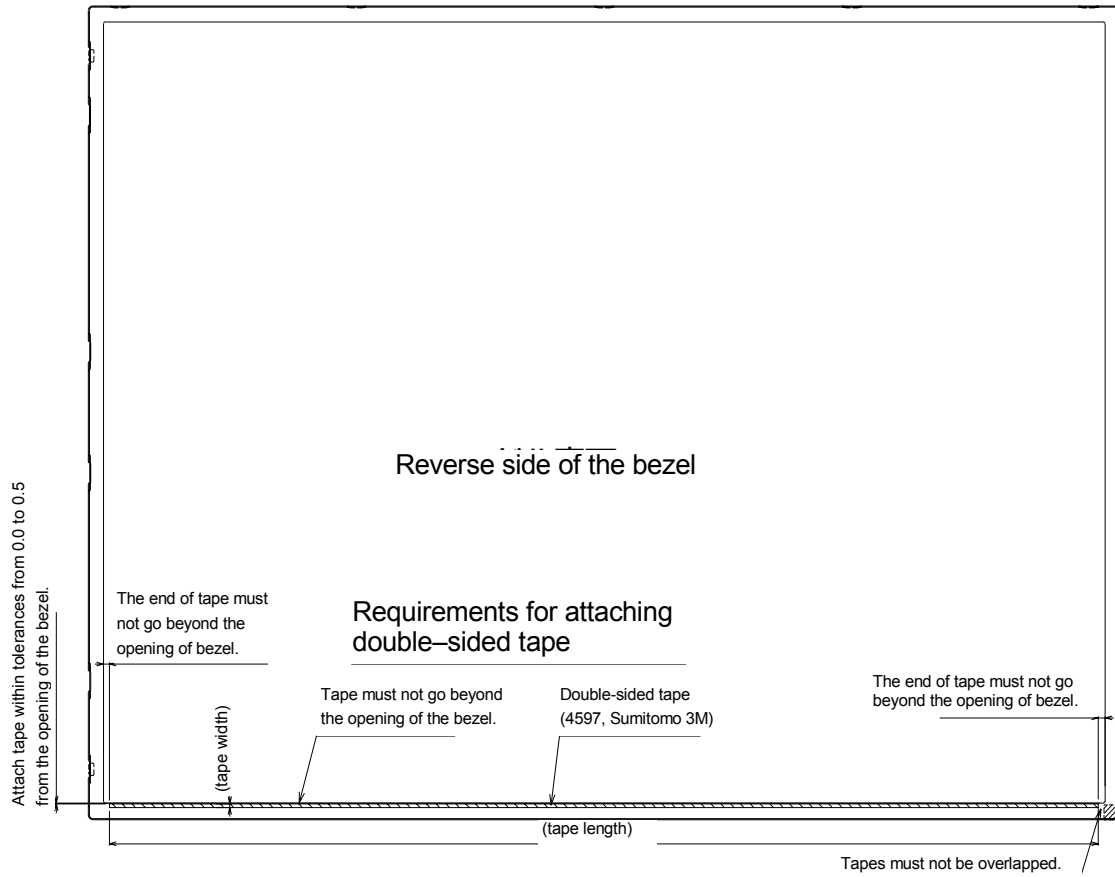

Figure 4-50 Replacing 14 Inch TMD fluorescent lamp (6)
1. Attach the double-sided tape to the reverse side of the bezel, as shown in Figure 4-50.